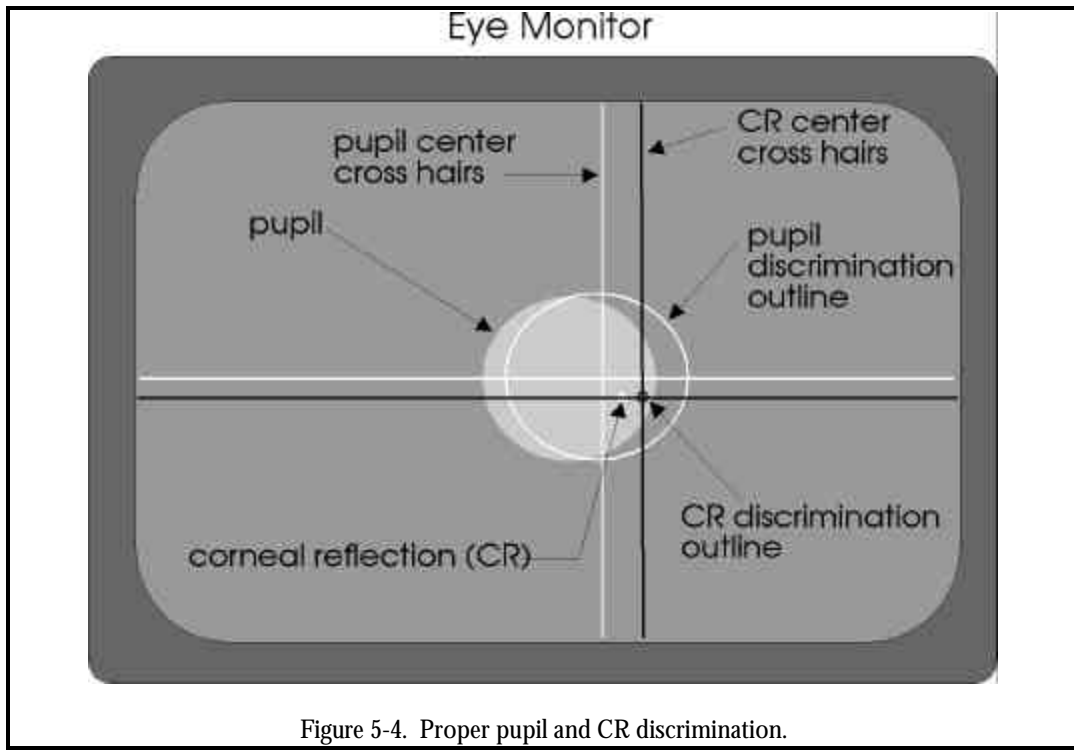

Figure 5-4. Proper pupil and CR discrimination.
2. Begin to increase the pupil discriminator level by moving the slide switch to the right. White dots will begin to appear on the eye monitor. These are discrimination points indicating video levels which are high enough to trigger the pupil edge threshold. As the discriminator is turned up further, these white dots begin to form an outline within the pupil and when the discriminator is turned up far enough, the dots will form a line that circumscribes the pupil. At this point white recognition cross hairs should appear through the center of pupil. (The circle and cross hairs will actually be offset slightly to the right of the pupil as shown in figure 5-4).
5. With the subject looking straight ahead, move the CR slide switch right until a black outline forms about the CR and black recognition cross hairs designate the center of the CR (the circle and cross hairs will actually be offset slightly to the right as shown in figure 5-4). CAUTION: If the CR discriminator is too far to the right, the pupil recognition cross hairs as well as the CR recognition cross hairs may disappear.
7. When the pupil and CR are properly recognized for a given eye image, as shown in figure 5-4, set the "Pan/Tilt Tracking" radio button to "Auto" to enable automatic pan/tilt tracking. With automatic tracking enabled and the pupil properly recognized as described above, the pan/tilt camera should be able to follow slow head motions. Auto-focus should keep the eye image in proper focus over a range of several inches (the range will vary from about 6 inches at high zoom and close distances to 10 inches at slightly lower zoom and longer distances). If the focus range seems asymmetrical (auto focus can follow further in one direction than the other) zoom in (Zoom switch on Pan/Tilt, Setup window to the right) very slightly to increase the close focus range or zoom out (Zoom switch on Pan/Tilt, Setup window to the left) very slightly to increase the far range. If using a magnetic head tracker, be sure to follow the instructions in section 5.2.3 before setting the Pan/tilt tracking mode to Auto.